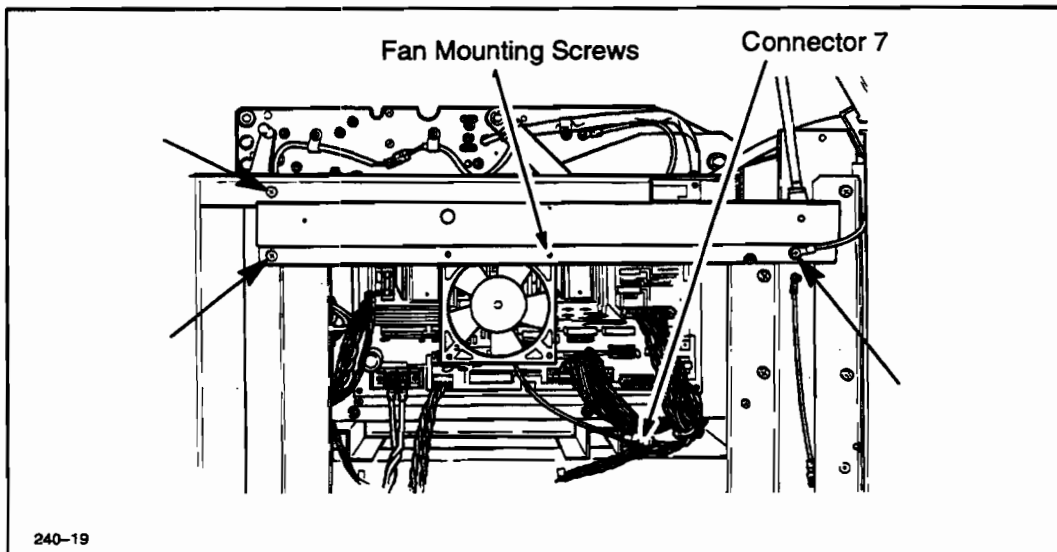

Figure 6-33. Fan 5 Removal
3. Disconnect the fan wires at Connector 7. See Figure 6-33.
1. Switch the plotter OFF (O) and disconnect the ac power cord and interface cable.
4. Disconnect Fan 5 wires at Connector 7. See Figure 6-33.